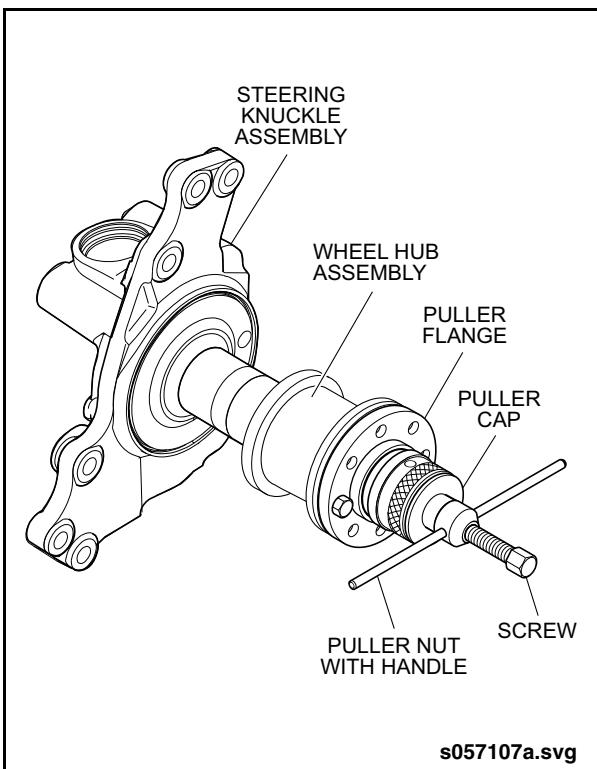

Fig. 1-18: Wheel Hub Installation
5. Install puller assembly (Items 36, 39, 40 & 41 from special tools list) onto the puller flange. See "Fig. 1-18: Wheel Hub Installation" on page 17.